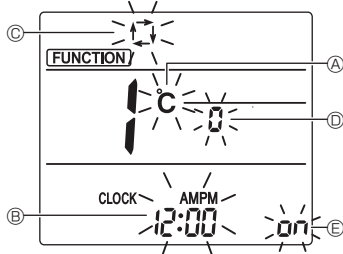

Fig. 4-11
3. Check that function No. "1" is displayed, and then press the **SET** button ③.
- The Screen display setting screen will be displayed. (Fig. 4-11)
- Press the **UP** button ④ to change the function No.
4.12.2. Changing the temperature unit (Fig. 4-11 Ⓐ)
- Press the **TEMP** button ⑤.
- Each time the **TEMP** button ⑤ is pressed, the setting switches between **C** and **F**.
4.12.3. Changing the time display (Fig. 4-11 Ⓑ)
- Press the **TIME** button ⑥.
- Each time the **TIME** button ⑥ is pressed, the setting switches between **12:00** and **24:00**.
4.12.4. Changing the AUTO mode (Fig. 4-11 Ⓒ)
- Press the **MODE** button ⑦.
- Each time the **MODE** button ⑦ is pressed, the setting switches between **Ⓜ** and **Ⓜ**.
4.12.5. Changing the pair No. (Fig. 4-11 Ⓓ)
- Press the **UP** button ④.
- Each time the **UP** button ④ is pressed, the pair No. 0-3 changes.